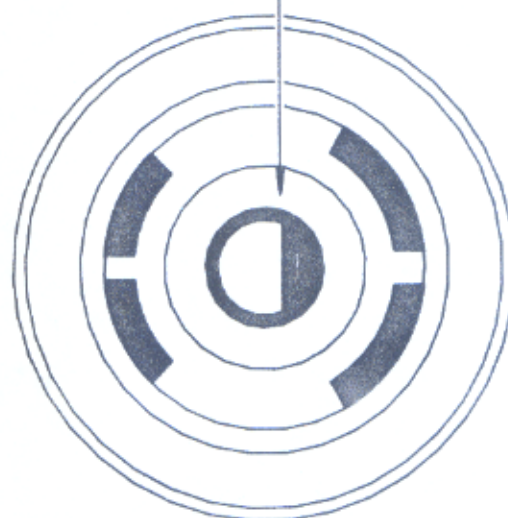

FIGURE 2
6. Align switch to Lock so that plastic tabs will match correctly to switch body and lock shaft flats will mate. Use screwdriver blade to turn gray switch shaft if necessary. See Figure 2.